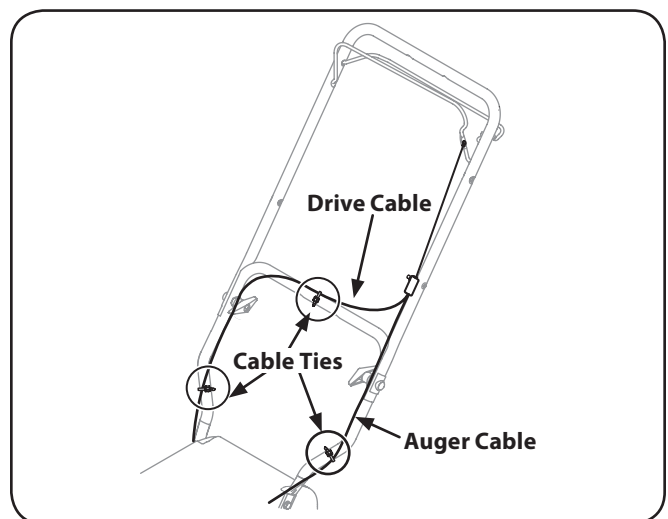

Figure 3-3
3. Slide one of the loosely fitted cable ties from the right side of the lower handle up to the cross member of the lower handle. Leave the second cable tie in place on the right side of the lower handle. See Fig. 3-3 for reference.
NOTE: The auger cable routes down the left lower handle and the drive cable is routed across the top of the lower handle and down the right side of the lower handle. See Fig. 3-3.
7. Three cable ties have been used to loosely tie the control cables to the lower handle, including the cable tie you relocated in step 3. Position cable ties now, as in Fig. 3-3, and tighten to secure cables to the lower handle. Trim off excess material of cable ties.